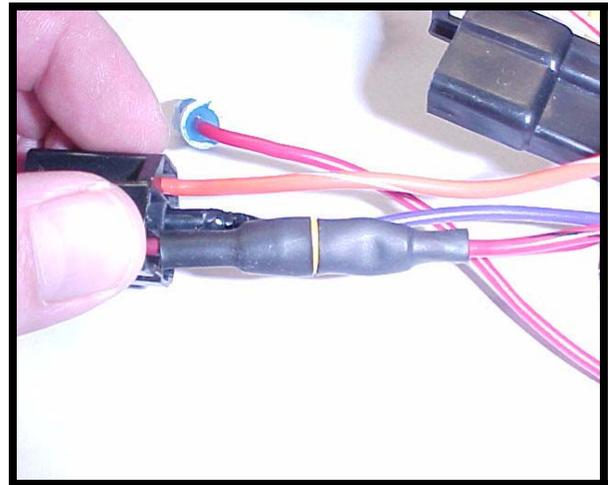

FIGURE 4
14. Install the wire terminal back into the plastic connector. See Figure 4.